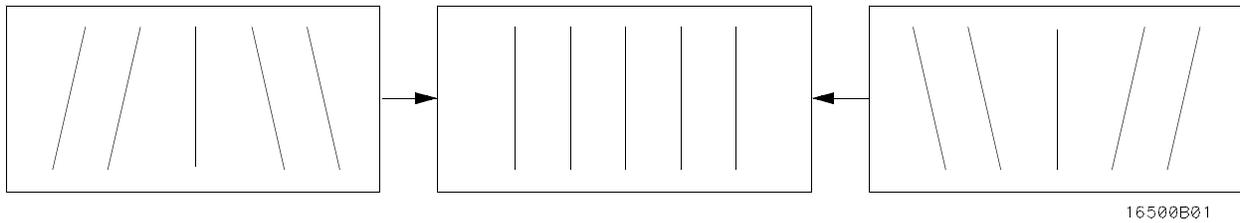

Figure 4-14. PIN PHASE Adjustment
- Adjust PIN PHASE (RV505), located on the left side PC board, to eliminate pin phase distortion in vertical lines of cross-hatch pattern as shown in figure 4-14.